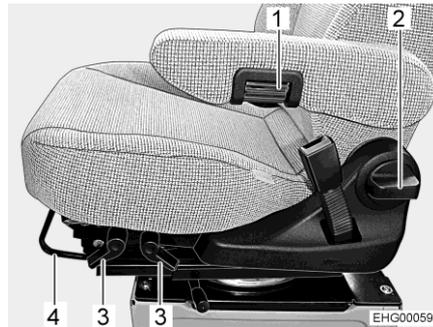

Fig. 17 Seat adjustment
- Pull the bar (Fig. 17,4) upwards.
- Pull the respective lever (Fig. 17,3) upwards.
- Turn the handle (Fig. 17,2).
- Turn the knurled wheel (Fig. 17,1) for fine adjustments. The armrest inclines upwards or downwards, depending on the rotation direction.